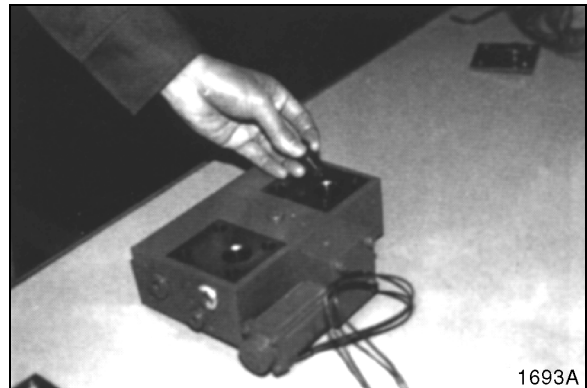

Figure 99
8. Install piston in cover. See Figure 99.